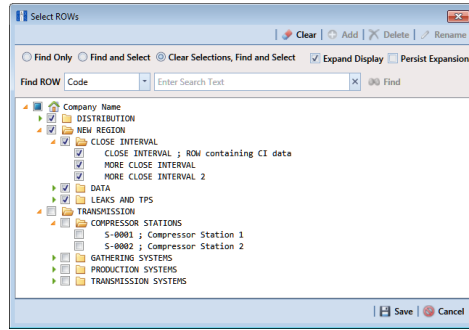

Figure 13-12. Select ROWs
- 2 Select one or more pipeline segments in the *Select ROWs* window (Figure 13-12). Click  **Save** to close the window.